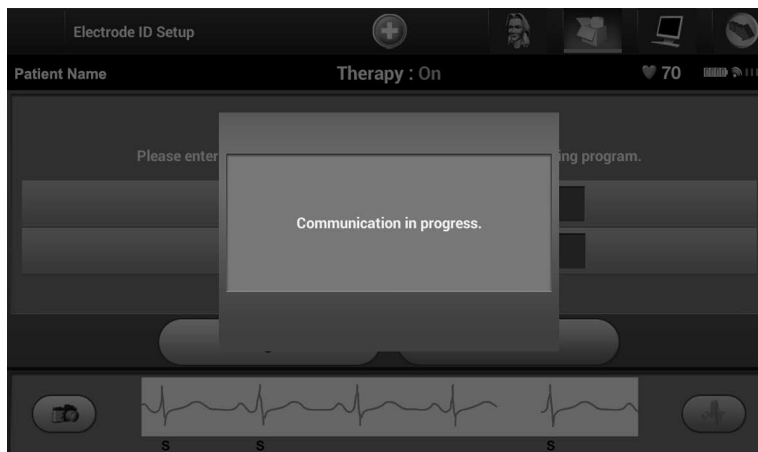

Figure 22: Confirmation screen showing communication in progress
6. Select the Program button to save the information. A confirmation screen will appear during communication with the device (Figure 22). Select Cancel to cancel information storage and return to the Automatic Setup screen.